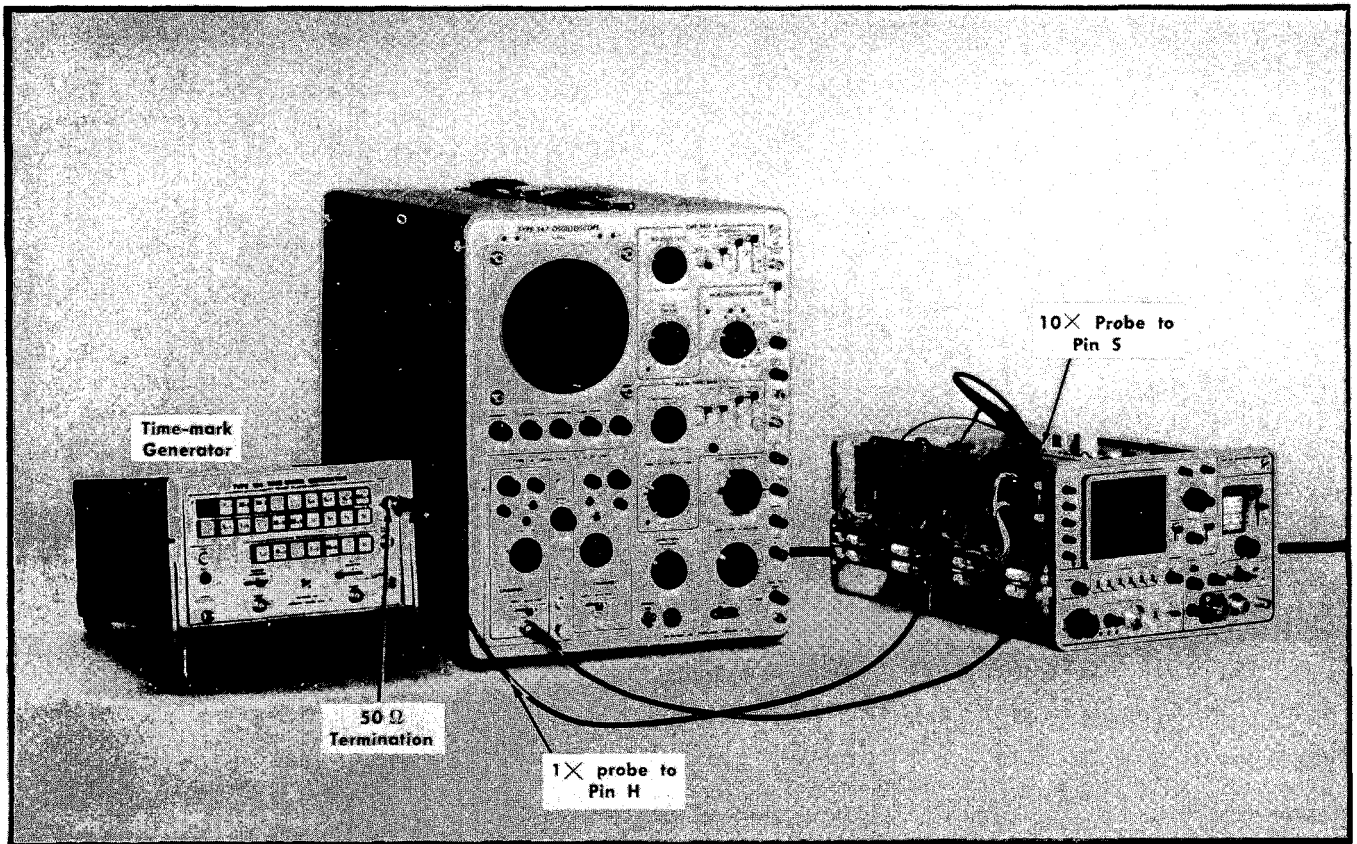

Fig. 6-14. Equipment setup to check and adjust sweep circuits, Steps 12 through 20.
12. Adjust Sweep Length ①
- a. Equipment setup is given in Fig. 6-14,
- a. Test equipment setup is given in Fig. 6-14.